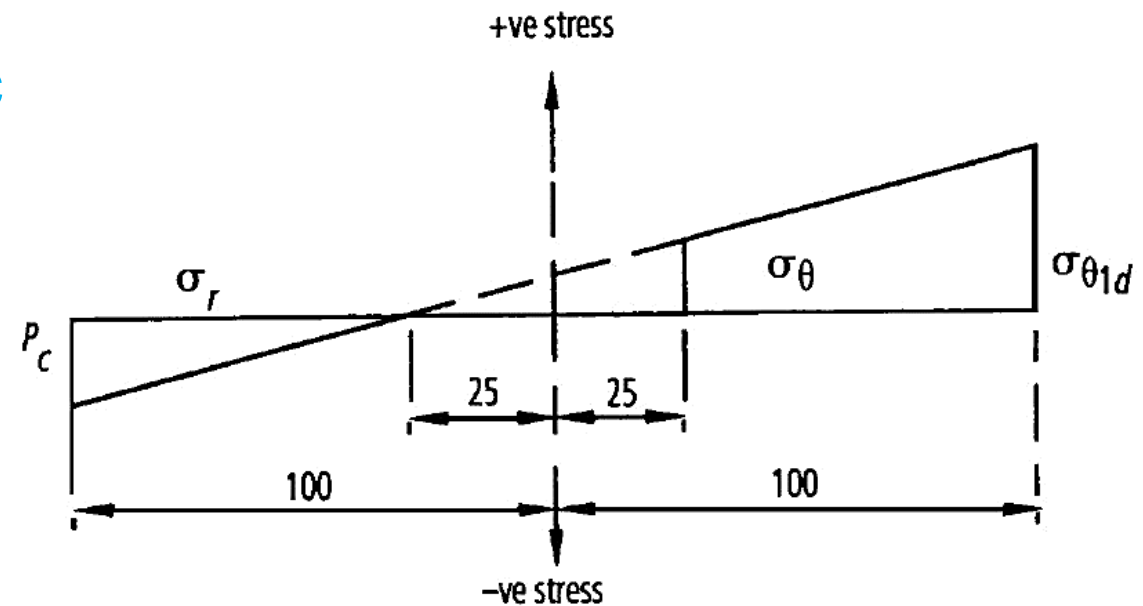

Figure 4.8 Lamé line for the steel ring.
- The Lamé line will take the form shown in Figure 4.8.